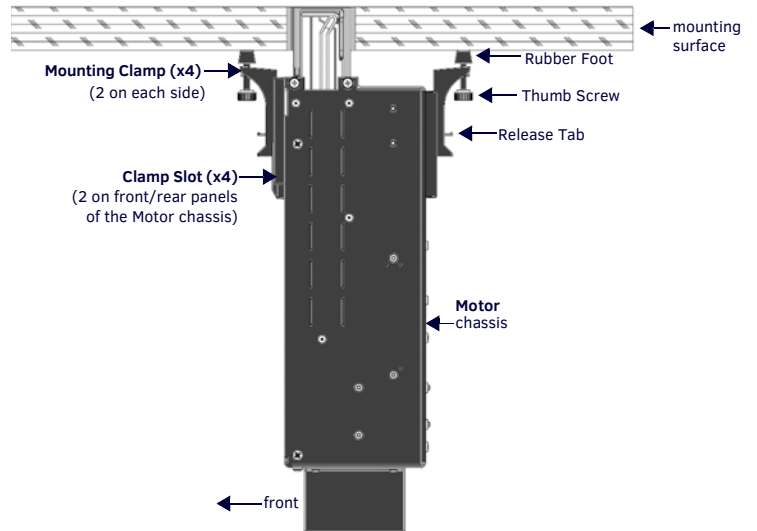

FIG. 9 MXR-1001 - INSTALLED (SIDE VIEW)
- Tighten the thumb screws on all Mounting Clamps to secure the MXR-1001 to the surface (FIG. 9):